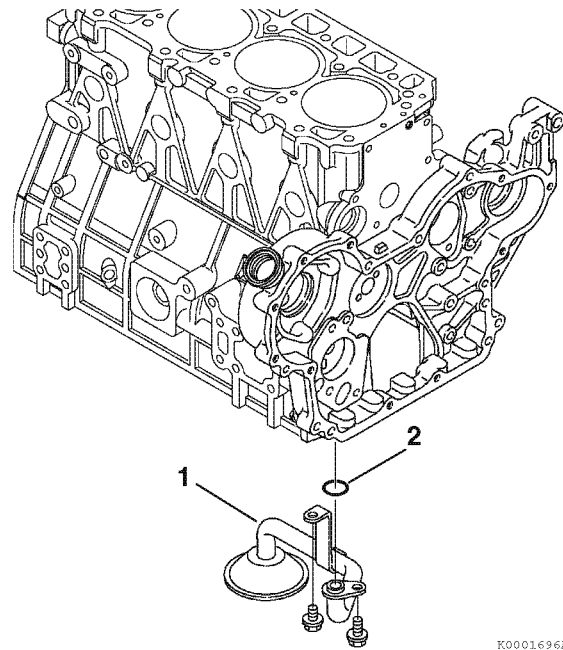

Figure 6-105
1. Reinstall the oil pickup tube (Figure 6-105, (1)) using a new O-ring (Figure 6-105, (2)).